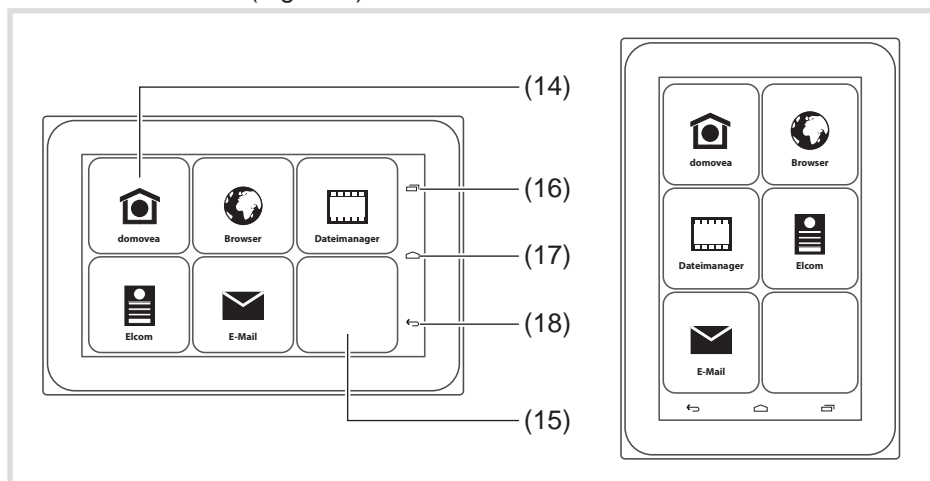

Figure 5: Launcher horizontal/vertical
The Android device variants are provided with a Launcher, in which a max. of 5 pages with control panels – 3 x 2/2 x 3 for 7'' (Figure 5), 4 x 2/2 x 4 from 10'' – are configurable. In the device, the Apps that can be used are already preinstalled in a library, e.g. the Elcom App or file manager. A preinstalled App from the library can be assigned to each free control panel (15). The domovea App at the top left is already assigned upon delivery (14).
Depending on the mounting orientation, there is a function bar at the right or bottom edge of the display with standard Android icons (16 ...18) for navigation in the Launcher (Figure 5).